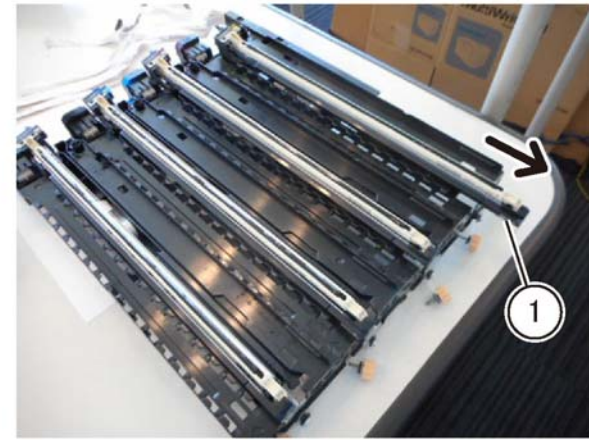

Figure 12 LPH
22. Move the LPH (Y) (1) to the front until it stops, Figure 12.